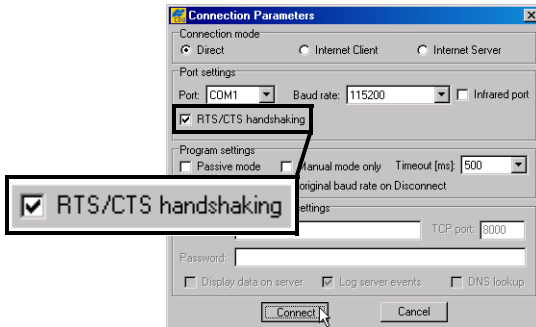

Figure 5-9. Connection Parameters – RTS/CTS Handshaking
2. Open PC-CDU. On the **Connection Parameters** dialog box, enable **RTS/CTS handshaking** and click **Connect** (Figure 5-9).